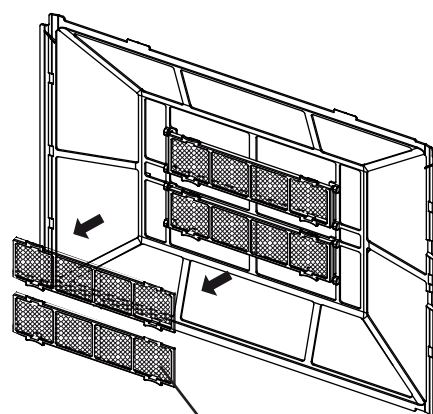

Fig.3
- 3 Take out the 2 special anti-formaldehyde filters by detaching the 4 fixing claws from the air filter's frame (Fig. 3).